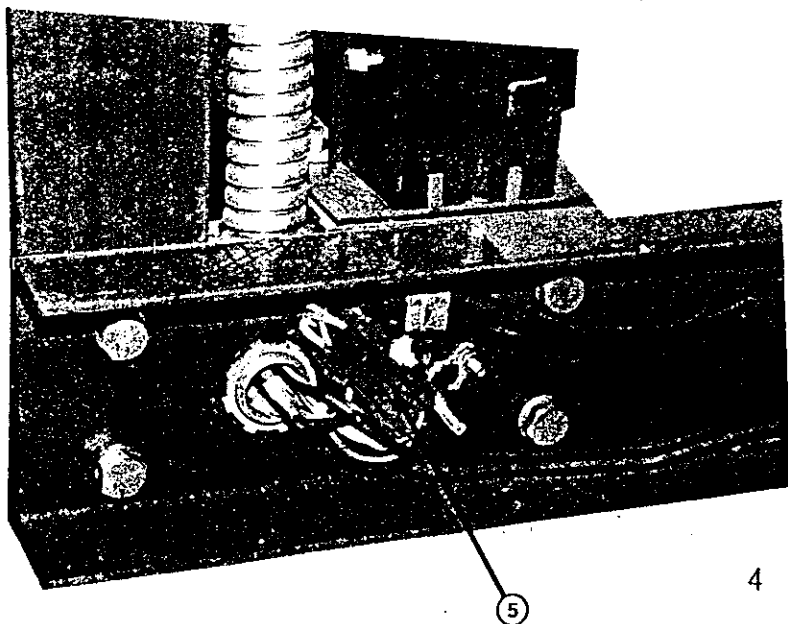

Figure 2.2.
STEP 2.2: Check motor plug in control box to motor plug [5] at base, see Figure 2.2. Do continuity check from pin to pin for each wire. If defective, replace the pin. (*Note: wire may be broken behind the pin under the plastic coating.*) See Illustration 2.2. If the wire harness checks out, go to STEP 2.3.